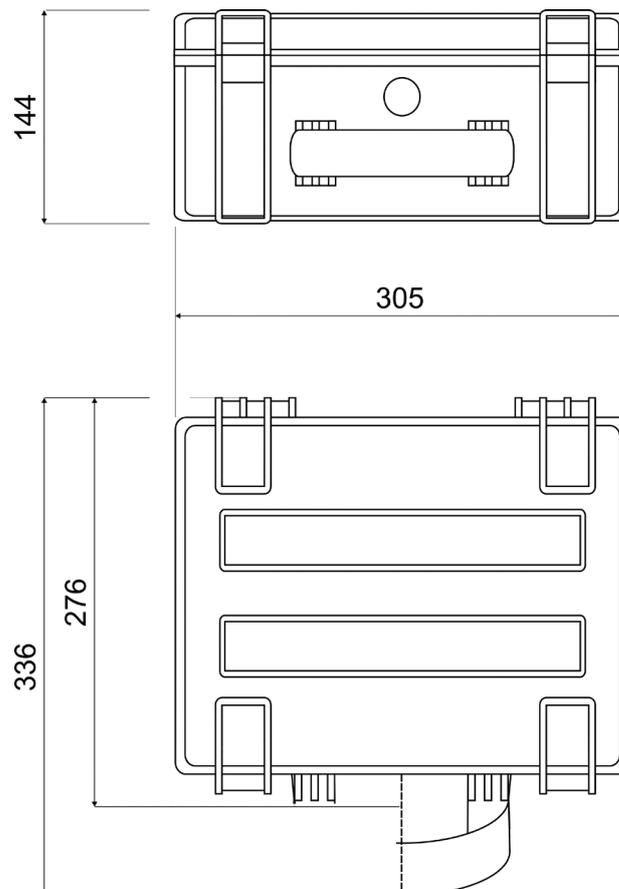

Fig. 3.2 Dimensions of KDZ-3C suitcase enclosure
Dimensions of suitcase enclosure for KDZ-3C	ca. 276 (336) x 305 x 144 / acc. to fig. 3.2